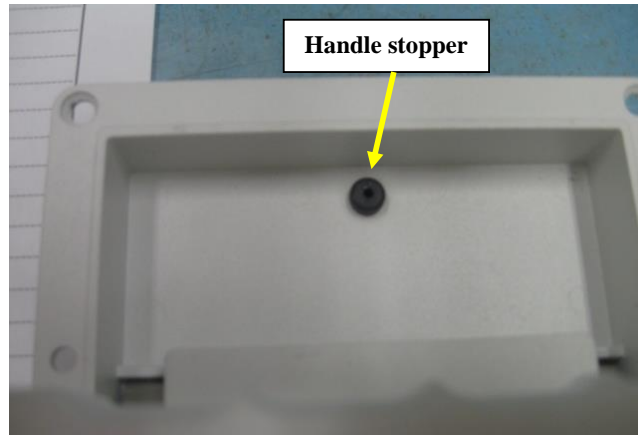

Figure 21
- 11.5. Install the black handle stopper (provided with Handle) into the hole of the Handle's plate (see Figure 21).